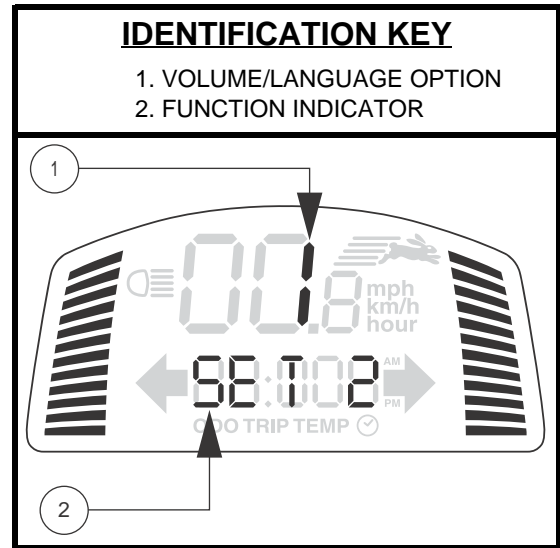

Figure 3. Volume Control Display
*NOTE: The turn signals are timed to shut off after 15 seconds. A warning beep will sound as long as the turn signal is on. See figure 3 for volume control.*
**NOTE:** The 4-way flashers will flash and a warning beep will sound as long as the hazard lights are on. See figure 3 for volume control.
The volume of the hazard lights, horn, low voltage, turn signals, and error message can be turned on or off separately. See **figure 3**.